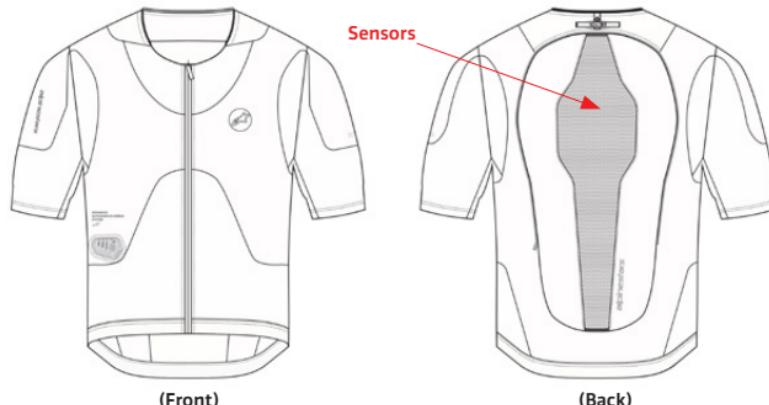

Figure 1 – Location of Sensors
The System consists of an Airbag Control Unit (5) with built-in sensors (Figure 1). The cluster of sensors of the Airbag Control Unit (5) consists of 1 tri-axial accelerometer and 1 tri-axial gyroscope positioned inside the Back Protector (4). These sensors monitor the User's body for shocks or unexpected movements. In the event the User's body is subject to a high and/or sudden amount of energy, the System will deploy. This may occur when the motorcycle is involved in an accident, such as when the motorcycle collides with another vehicle or with an object, when the rider loses control or when the rider falls off the motorcycle.